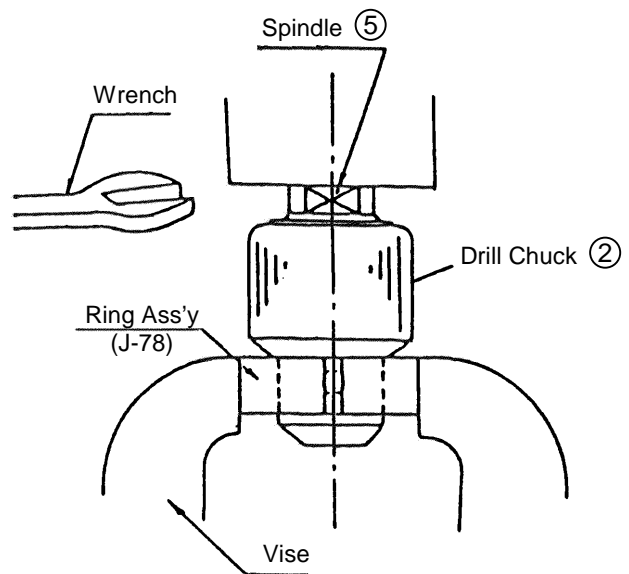

Fig. 3
(1) Removal of the Drill Chuck (See Fig. 3):
For all models, the Drill Chuck ② is fixed to the Spindle ⑤ by a UNF $\frac{1}{2}$ "-20 thread (right-hand threaded). As illustrated in Fig. 3, fit the pin portion of a J-78 Ring Ass'y (special repair tool, Code No. 970817) into the Chuck Wrench mounting hole on the Drill Chuck, and secure the assembly in a vise. Then, fit a 17 mm (43/64") width x 4 mm (5/32") or less thickness wrench onto the provided flat surfaces on the Spindle ⑤, and turn the Spindle counter-clockwise to loosen and remove the Drill Chuck ②.